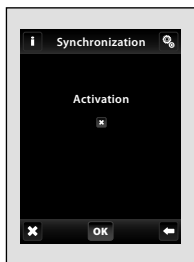
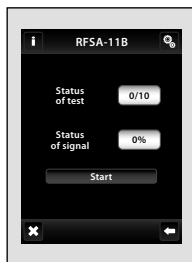

fig. 57
fig. 58
- Synchronization (fig. 57)
- Communication test (fig. 58)
By touching the name or address of the actuator the menu is displayed (fig. 50): Remove (fig. 55), Change of Address (fig. 56), Synchronization (fig. 57) and Communication test (fig. 58).